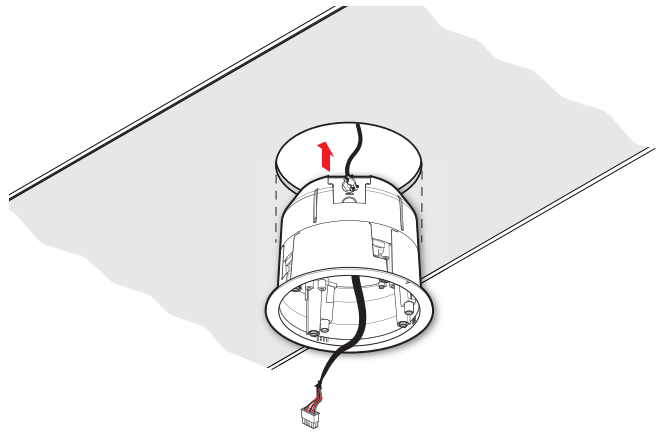

Figure 9. Insert the Back Can into the Ceiling Tile
- Insert the back can through the hole in the ceiling tile that was cut in **step 2**. Move **the wires out of the way to make this easier (see figure 9)**.